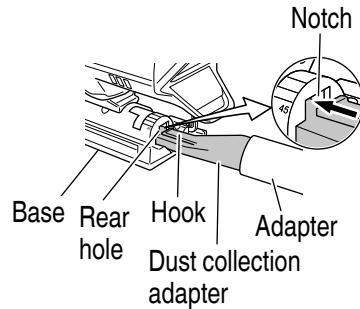

Fig. 33
- (5) Insert dust collection adapter into the rear hole of the base until the hook catches in the notch. (Fig. 33)
- (6) Press the hook to remove the dust collection adapter.